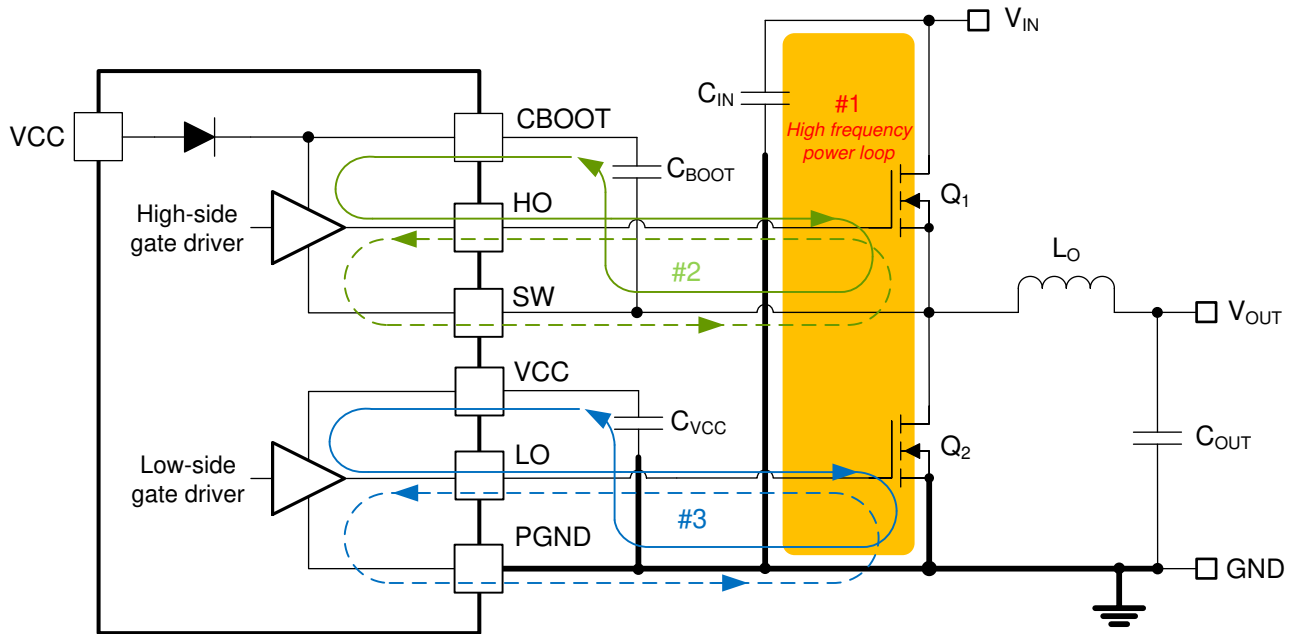

Figure 8-46. DC/DC Regulator Ground System With Power Stage and Gate Drive Circuit Switching Loops
Proper PCB design and layout is important in a high-current, fast-switching circuit (with high current and voltage slew rates) to achieve a robust and reliable design. As expected, certain issues must be considered before designing a PCB layout using the LM5148-Q1. The high-frequency power loop of a buck regulator power stage is denoted by loop 1 in the shaded area of Figure 8-46. The topological architecture of a buck regulator means that particularly high di/dt current flows in the components of loop 1, and reducing the parasitic inductance of this loop by minimizing the effective loop area becomes mandatory. Also important are the gate drive loops of the high-side and low-side MOSFETs, denoted by 2 and 3, respectively, in Figure 8-46.
- Loop 1: The most important loop area to minimize is the path from the input capacitor or capacitors through the high- and low-side MOSFETs, and back to the capacitor or capacitors through the ground connection. Connect the input capacitor or capacitors negative terminal close to the source of the low-side MOSFET (at ground). Similarly, connect the input capacitor or capacitors positive terminal close to the drain of the high-side MOSFET (at V_{IN}). Refer to loop 1 of Figure 8-46.
- The SW pin connects to the switch node of the power conversion stage and acts as the return path for the high-side gate driver. The parasitic inductance inherent to loop 1 in Figure 8-46 and the output capacitance (C_{OSS}) of both power MOSFETs form a resonant circuit that induces high frequency (greater than 50 MHz) ringing at the SW node. The voltage peak of this ringing, if not controlled, can be significantly higher than the input voltage. Make sure that the peak ringing amplitude does not exceed the absolute maximum rating limit for the SW pin. In many cases, a series resistor and capacitor snubber network connected from the SW node to GND damps the ringing and decreases the peak amplitude. Provide provisions for snubber network
- Loop 2: high-side MOSFET, Q₁. During the high-side MOSFET turn-on, high current flows from the bootstrap (boot) capacitor through the gate driver and high-side MOSFET, and back to the negative terminal of the boot capacitor through the SW connection. Conversely, to turn off the high-side MOSFET, high current flows from the gate of the high-side MOSFET through the gate driver and SW, and back to the source of the high-side MOSFET through the SW trace. Refer to loop 2 of Figure 8-46.
- Loop 3: low-side MOSFET, Q₂. During the low-side MOSFET turn-on, high current flows from the VCC decoupling capacitor through the gate driver and low-side MOSFET, and back to the negative terminal of the capacitor through ground. Conversely, to turn off the low-side MOSFET, high current flows from the gate of the low-side MOSFET through the gate driver and GND, and back to the source of the low-side MOSFET through ground. Refer to loop 3 of Figure 8-46.